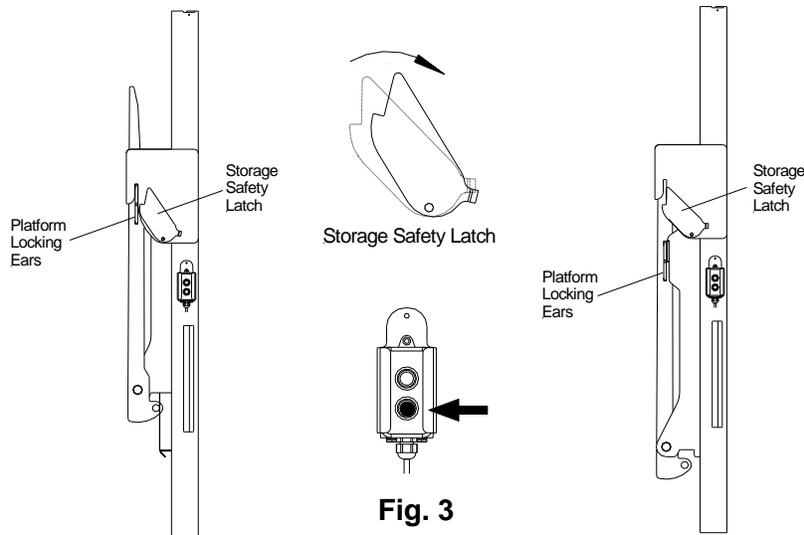

Fig. 3
2. Clear the platform sliding path by moving the storage safety latch manually. Hold the safety latch down manually with one hand and press the **Down** button on the control with the other hand until the platform locking ears clear the safety latch, **Fig. 3.** Release the safety latch back to its original place.